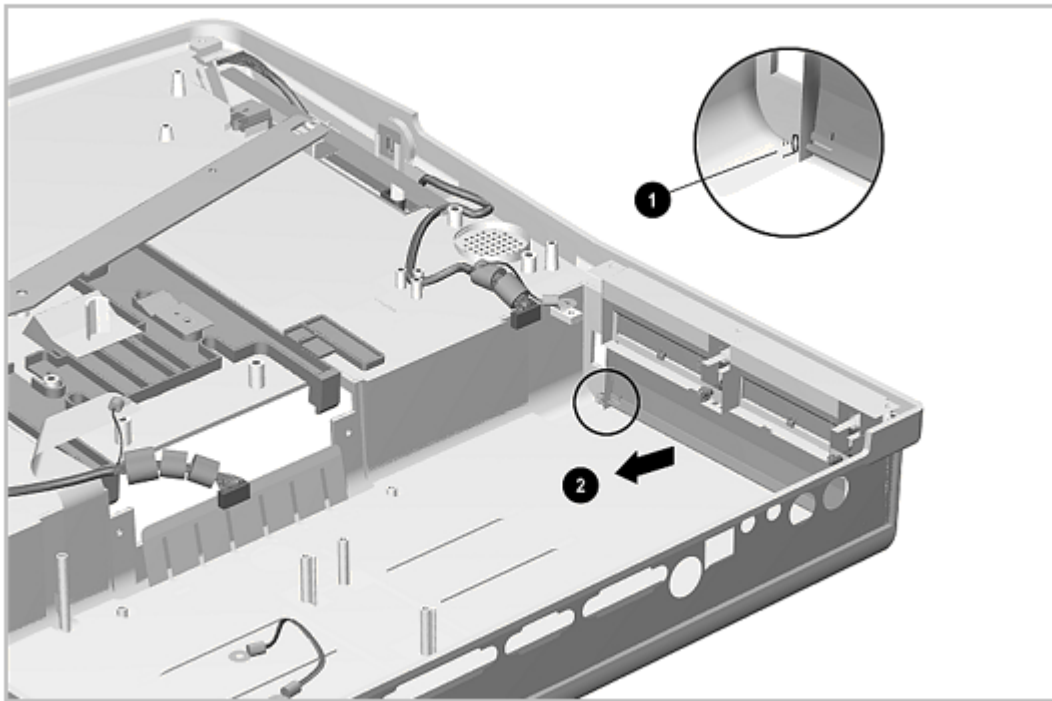

Figure 7-25. Removing the MultiBay Door
6. Remove the MultiBay door by flexing the door [2] away from the expansion base as shown in Figure 7-25. Note the orientation of the spring [1]; this is important since it maintains the door in a closed position.